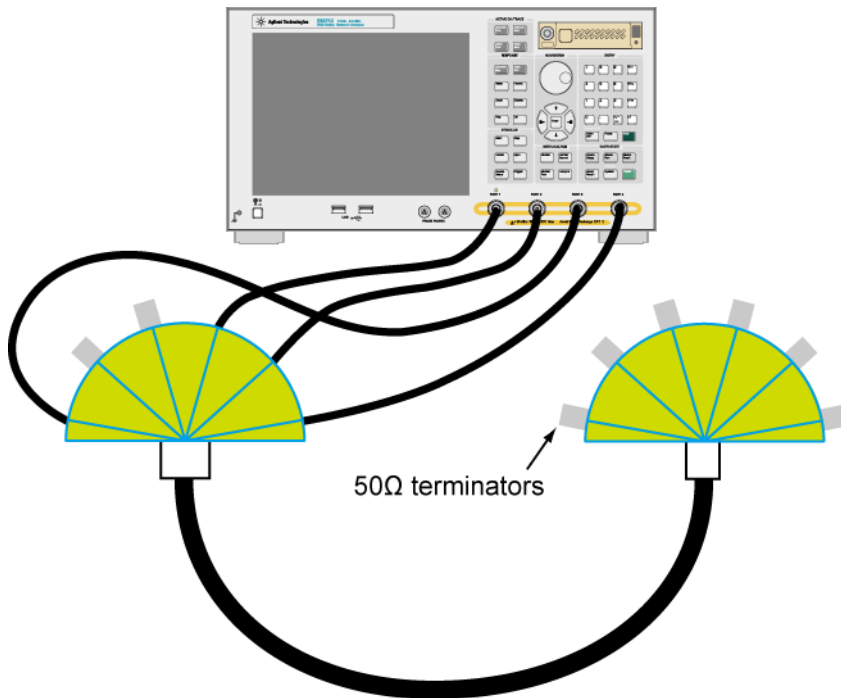

Figure 5-19 Connection Example for Near End Crosstalk measurement
2. Connect the test fixture to the test port cables according to the Figure 5-19